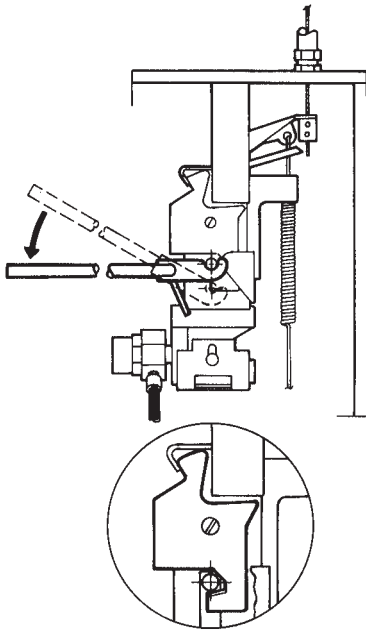

FIGURE 4
- ▶ 18. Cock the regulated release mechanism using cocking lever (Part No. 14995 or 435603). See Figure 4.